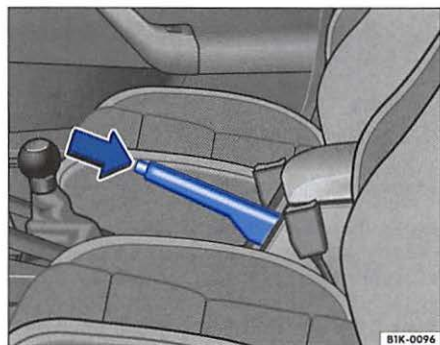

Fig. 89 Parking brake between front seats
⇒ fig. 89.
- Pull the lever up slightly and press the locking knob in the direction of the arrow ⇒ fig. 89 and guide the parking brake lever down fully ⇒ .